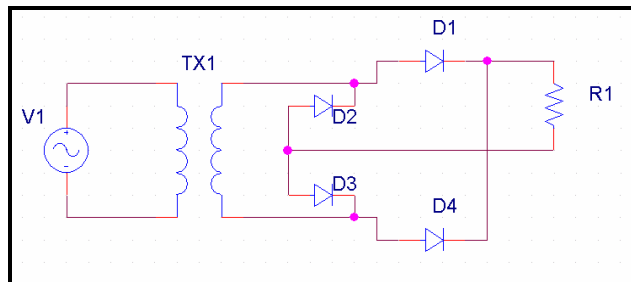

Fig 1.3 -- Bridge Rectifier
- Construct the circuit shown in Figure 1.3. Test the circuit for a possible short to ground with an ohm meter. Correct any wiring errors and test again. **Connect TX1** to an AC outlet. Measure and record the waveform across R1. **Disconnect TX1** from the AC outlet! Plot and label the waveform Figure 3A -- Waveform across R1 in Bridge Rectifier. Indicate and measure any relevant detail.